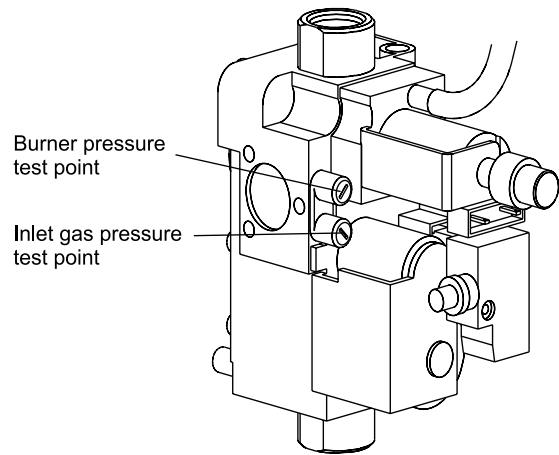

Fig. 16
2. Loosen the gas inlet pressure test point screw on the gas valve (see Fig. 16). Ensure the gas supply is on and open the boiler service cock to purge in accordance with BS 6891.
5.5 CHECK THE BURNER PRESSURES - Fig. 16